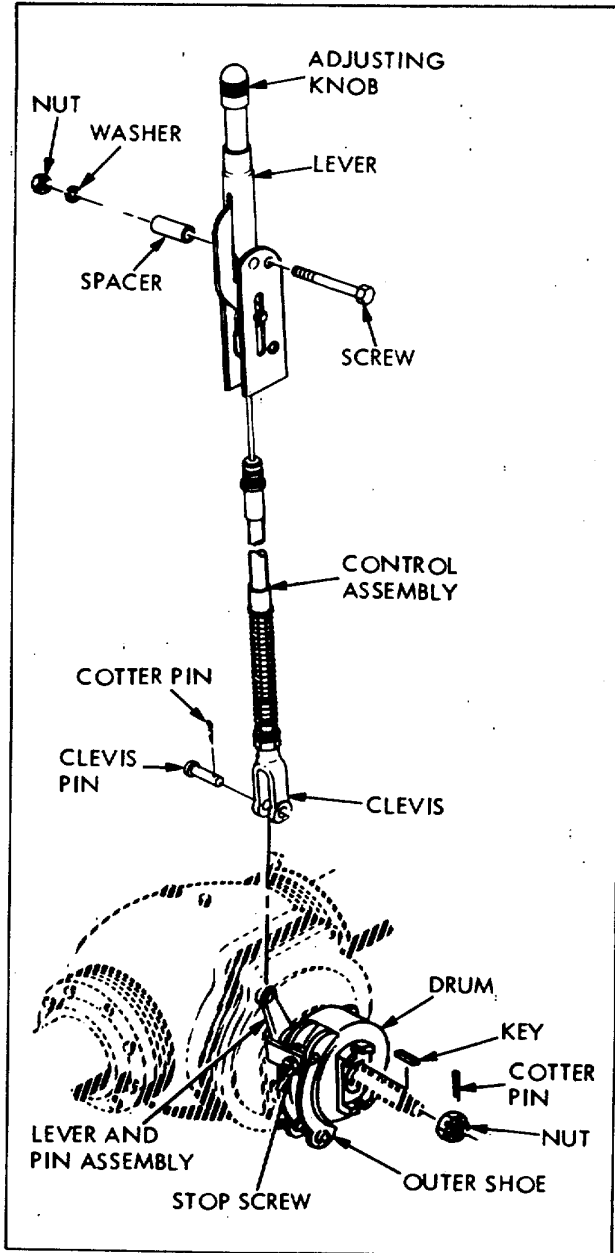

Figure 6-6. Handbrake, Partly Exploded View
- (1) Remove truck floor board, and remove cotter pin and clevis pin that attach control assembly to lever and pin which applies brake (Figure 6-6).